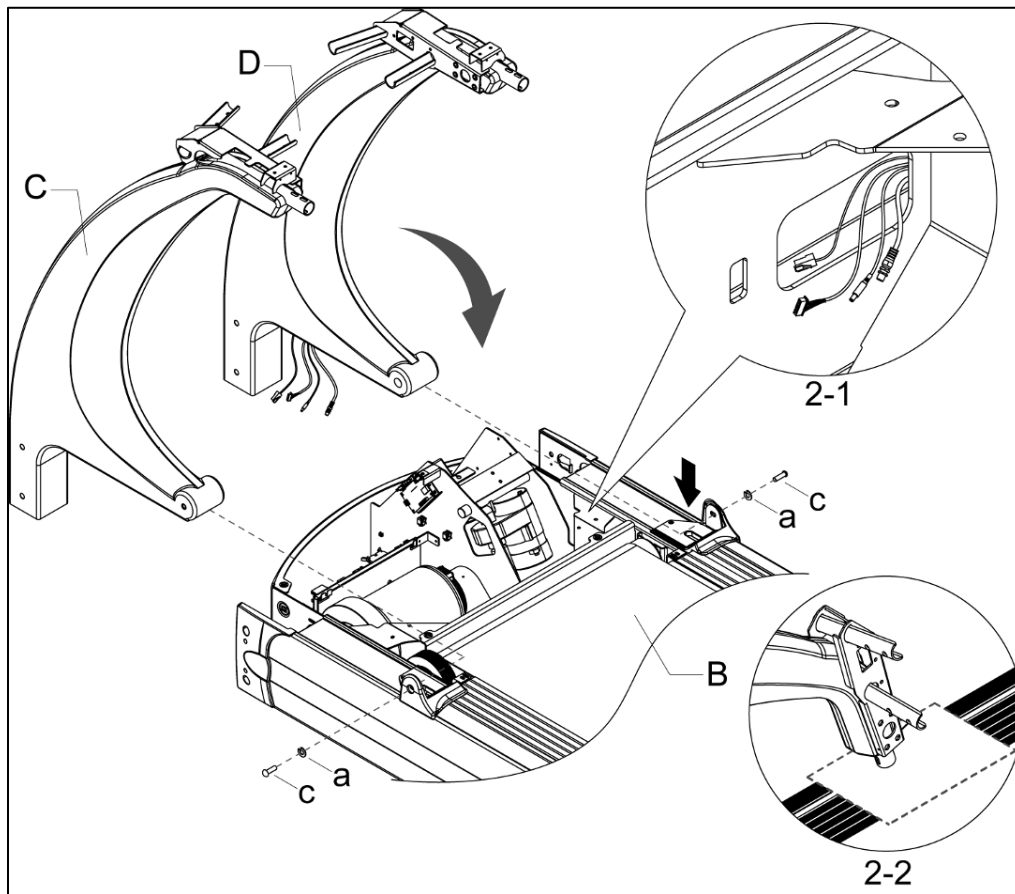

Fig. 2
- b) Install Pedestal – R (D) into Frame (B) rotated down and rest the top of the pedestal on the straddle cover as shown below. This position will help prevent cable damage.
- c) Using 7/32 inch hex key, install Bolt 3/8-16 UNC x 3/4 (c) and Washer 3/8 – Split (a) into pivot of Pedestal – R but do not tighten yet. See Fig. 2.
- d) Insert cable bundle that exits from the bottom of Pedestal – R (D) into opening (down arrow on Fig. 2) of the plastic Pivot Trim on the right side of Frame (B).
- g) Install Pedestal – L (C) into Frame (B)
- h) Using 7/32 inch hex key, install Bolt 3/8-16 UNC x 3/4 (c) and Washer 3/8 – Split (a) into pivot of Pedestal – L but do not tighten yet. See Fig. 2.